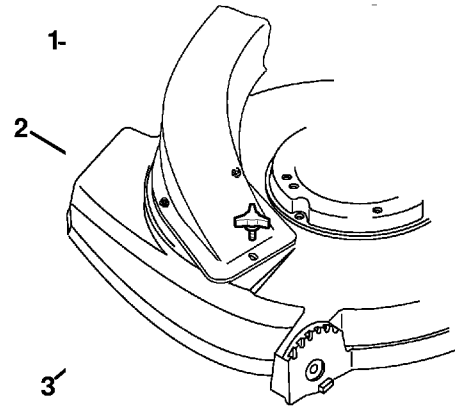

Figure 39
2. Place chute assembly into housing opening (Fig. 39).
5. Secure chute assembly to housing with a knob (Fig. 39).